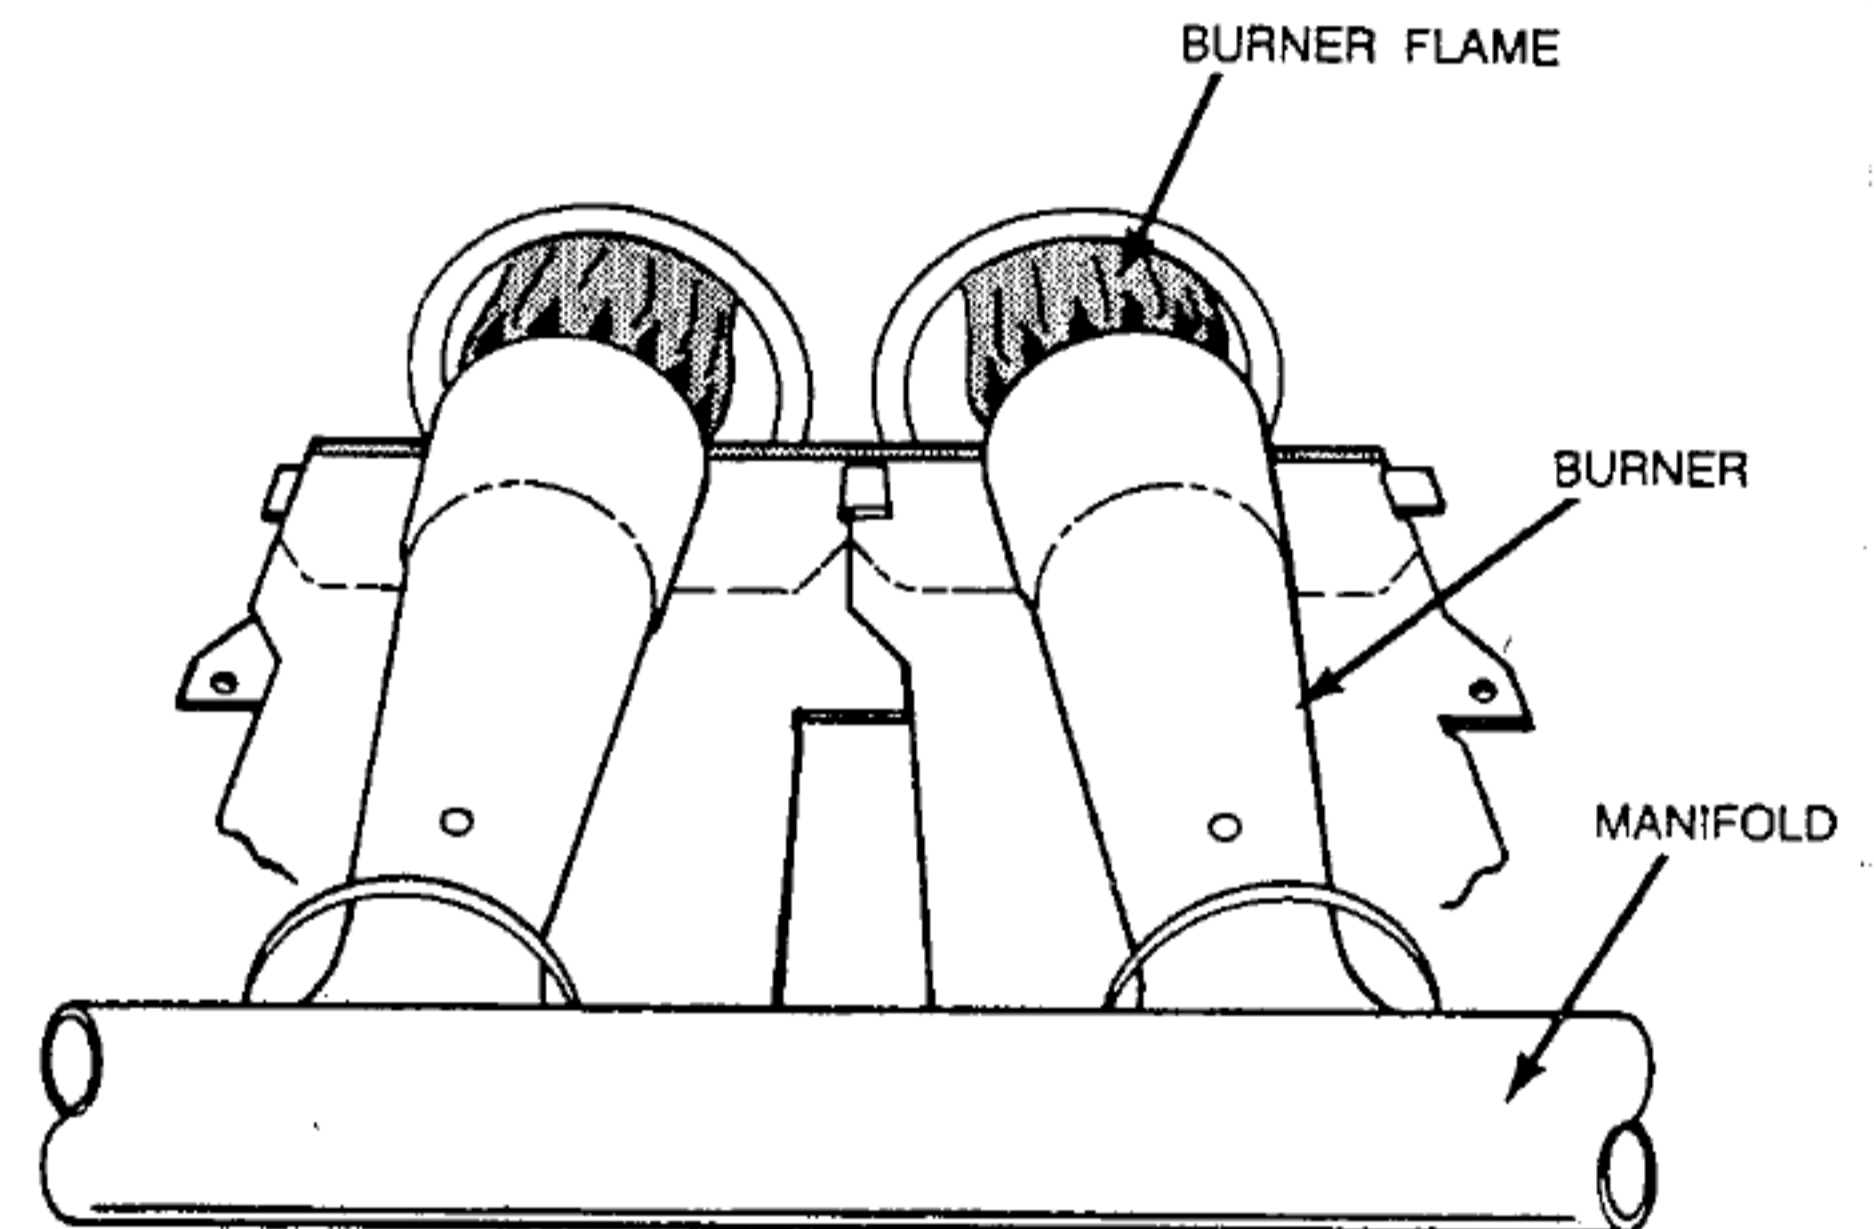

Fig. 12—Burner Flame
- (3.) When correct input is obtained, replace regulator seal cap. Main burner flame should be clear blue, almost transparent. (See Fig. 12.)